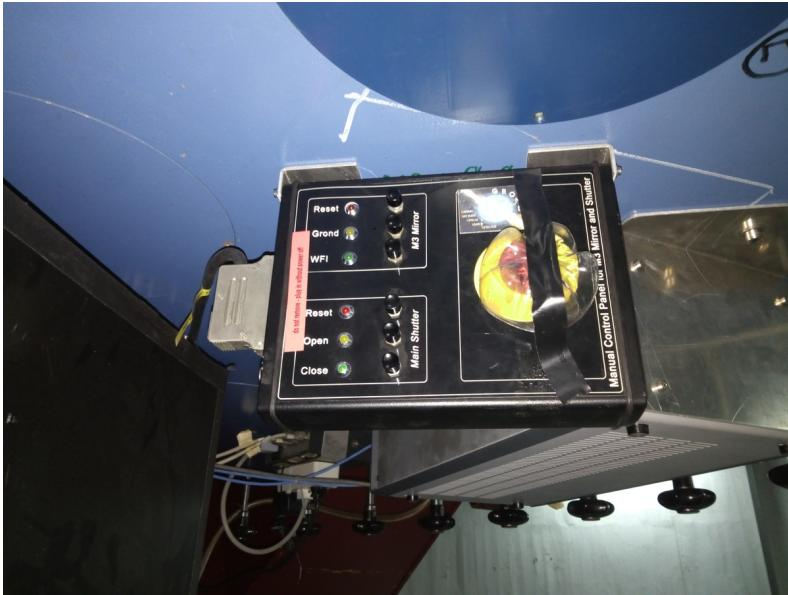

Figure 10.11: The GROND M3 mirror and main cover control box.
- B. On the box (Fig. 10.11, p. 89), press the grondM3 WIFI button.